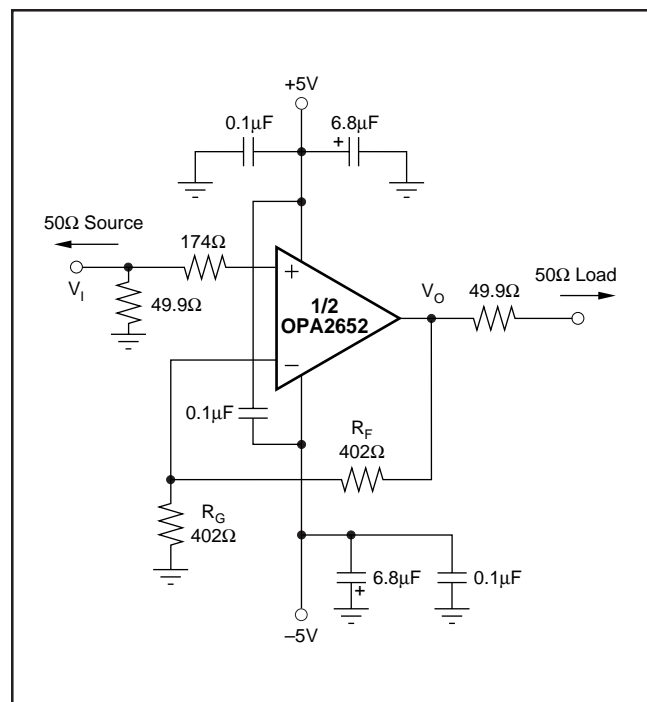
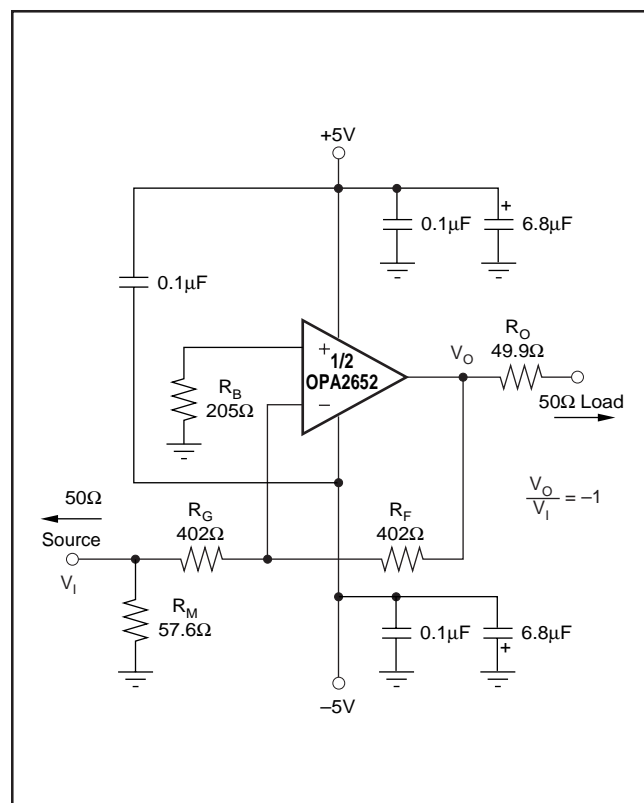

FIGURE 1. DC-Coupled,  $G = +2$ , Bipolar Supply, Specification and Test Circuit.
FIGURE 2. DC-Coupled,  $G = -1$ , Bipolar Supply, Specification and Test Circuit.
At  $T_A = +25^\circ\text{C}$ ,  $G = +2$ ,  $R_F = 402\Omega$ , and  $R_L = 100\Omega$ , unless otherwise noted. See Figures 1 and 2.
At  $T_A = +25^\circ C$ ,  $G = +2$ ,  $R_F = 402\Omega$ , and  $R_L = 100\Omega$ , unless otherwise noted. See Figures 1 and 2.
Figure 1 shows the DC-coupled, gain of +2, dual power supply circuit configuration used as the basis of the  $\pm 5\text{V}$  Specifications and Typical Performance Curves. This is for one channel. The other channel is connected similarly. For test purposes, the input impedance is set to  $50\Omega$  with a resistor to ground and the output impedance is set to  $50\Omega$  with a series output resistor. Voltage swings reported in the specifications are taken directly at the input and output pins, while output powers (dBm) are at the matched  $50\Omega$  load. For the circuit of Figure 1, the total effective load will be  $100\Omega \parallel 804\Omega$ . Two optional components are included in Figure 1.
Figure 2 shows the DC-coupled gain of  $-1$ , bipolar supply circuit configuration which is the basis of the Specifications and Typical Performance Curves at  $G = -1$ . The input impedance matching resistor ( $57.6\Omega$ ) used for testing gives a  $50\Omega$  input load. A resistor ( $205\Omega$ ) connects the non-inverting input to ground. This provides the DC source resistance matching to cancel outputs errors due to input bias current.
A good rule of thumb is to target the parallel combination of  $R_F$  and  $R_G$  (Figure 1) to be less than approximately  $300\Omega$ . The combined impedance  $R_F \parallel R_G$  interacts with the inverting input capacitance, placing an additional pole in the feedback network, and thus a zero in the forward response. Assuming a  $2pF$  total parasitic on the inverting node, holding  $R_F \parallel R_G < 300\Omega$  will keep this pole above  $250MHz$ . By itself, this constraint implies that the feedback resistor  $R_F$  can increase to several  $k\Omega$  at high gains. This is acceptable as long as the pole formed by  $R_F$  and any parasitic capacitance appearing in parallel is kept out of the frequency range of interest.
Voltage feedback op amps exhibit decreasing closed-loop bandwidth as the signal gain is increased. In theory, this relationship is described by the Gain Bandwidth Product (GBP) shown in the specifications. Ideally, dividing GBP by the non-inverting signal gain (also called the Noise Gain, or NG) will predict the closed-loop bandwidth. In practice, this only holds true when the phase margin approaches  $90^\circ$ , as it does in high gain configurations. At low gains (increased feedback factor), most amplifiers will exhibit a wider bandwidth and lower phase margin. The OPA2652 is compensated to give a flat response in a non-inverting gain of 1 (Figure 1). This results in a typical gain of +1 bandwidth of 700MHz, far exceeding that predicted by dividing the 200MHz GBP by  $NG = 1$ . Increasing the gain will cause the phase margin to approach  $90^\circ$  and the bandwidth to more closely approach the predicted value of  $(GBP/NG)$ . At a gain of +5, the 45MHz bandwidth shown in the Typical Specifications is close to that predicted using this simple formula.
Since the OPA2652 is a general purpose, wideband voltage feedback op amp, all of the familiar op amp application circuits are available to the designer. Inverting operation is one of the more common requirements and offers several performance benefits. Figure 2 shows a typical inverting configuration.
In the inverting configuration, three key design considerations must be noted. The first is that the gain resistor ( $R_G$ ) becomes part of the signal channel input impedance. If input impedance matching is desired (which is beneficial whenever the signal is coupled through a cable, twisted pair, long PC board trace or other transmission line conductor),  $R_G$  may be set equal to the required termination value and  $R_F$  adjusted to give the desired gain. This is the simplest approach and results in optimum bandwidth and noise performance. However, at low inverting gains, the resultant feedback resistor value can present a significant load to the amplifier output. For an inverting gain of  $-1$ , setting  $R_G$  to  $50\Omega$  for input matching eliminates the need for  $R_M$  but requires a  $50\Omega$  feedback resistor. This has the interesting advantage that the noise gain becomes equal to 2 for a  $50\Omega$  source impedance—the same as the non-inverting circuits considered above. However, the amplifier output will now see the  $50\Omega$  feedback resistor in parallel with the external load. In general, the feedback resistor should be limited to the  $200\Omega$  to  $1.5k\Omega$  range. In this case, it is preferable to increase both the  $R_F$  and  $R_G$  values as shown in Figure 2, and then achieve the input matching impedance with a third resistor ( $R_M$ ) to ground. The total input impedance becomes the parallel combination of  $R_G$  and  $R_M$ .
The second major consideration, touched on in the previous paragraph, is that the signal source impedance becomes part of the noise gain equation and influences the bandwidth. For the example in Figure 2, the  $R_M$  value combines in parallel with the external  $50\Omega$  source impedance, yielding an effective
driving impedance of  $50\Omega \parallel 57.6\Omega = 26.8\Omega$ . This impedance is added in series with  $R_G$  for calculating the noise gain (NG). The resultant NG is 1.94 for Figure 2, (an ideal  $0\Omega$  source would cause  $NG = 2.00$ ).
The third important consideration in inverting amplifier design is setting the bias current cancellation resistor on the non-inverting input ( $R_B$ ). If this resistor is set equal to the total DC resistance looking out of the inverting node, the output DC error, due to the input bias currents, will be reduced to  $(\text{Input Offset Current}) \cdot R_F$ . If the  $50\Omega$  source impedance is DC-coupled in Figure 2, the total resistance to ground on the inverting input will be  $429\Omega$ . Combining this in parallel with the feedback resistor gives  $208\Omega$ , which is close to the  $R_B = 205\Omega$  used in Figure 2. To reduce the additional high frequency noise introduced by this resistor, it is sometimes bypassed with a capacitor. As long as  $R_B < 300\Omega$ , the capacitor is not required since its total noise contribution will be much less than that of the op amp's input noise voltage.
The OPA2652 provides good distortion performance into a 100 $\Omega$  load on  $\pm 5V$  supplies. Increasing the load impedance improves distortion directly. Remember that the total load includes the feedback network; in the non-inverting configuration (Figure 1) this is sum of  $R_F + R_G$ , while in the inverting configuration, it is just  $R_F$ . Also, providing an additional supply decoupling capacitor (0.1 $\mu F$ ) between the supply pins (for bipolar operation) improves the 2nd-order distortion slightly (3dB to 6dB).
Evaluating these two equations for the OPA2652 circuit and component values shown in Figure 1 will give a total output spot noise voltage of  $17nV/\sqrt{Hz}$  and a total equivalent input spot noise voltage of  $8.4nV/\sqrt{Hz}$ . This is including the noise added by the bias current cancellation resistor (205 $\Omega$ ) on the non-inverting input. This total input-referred spot noise voltage is only slightly higher than the  $8nV/\sqrt{Hz}$  specification for the op amp voltage noise alone. This will be the case as long as the impedances appearing at each op amp input are limited to the previously recommended maximum value of 300 $\Omega$ . Keeping both  $(R_F \parallel R_G)$  and the non-inverting input source impedance less than 300 $\Omega$  will satisfy both noise and frequency response flatness considerations. Since the resistor-induced noise is relatively negligible, additional capacitive decoupling across the bias current cancellation resistor ( $R_B$ ) for the inverting op amp configuration of Figure 2 is not required.
The balanced input stage of a wideband voltage feedback op amp allows good output DC accuracy in a wide variety of applications. Although the high speed input stage does require relatively high input bias current (typically 4 $\mu A$  out of each input terminal), the close matching between them may be used to significantly reduce the output DC error caused by this current. This is done by matching the DC source resistances appearing at the two inputs. This reduces the output DC error due to the input bias currents to the offset current times the feedback resistor. Evaluating the configuration of Figure 1, using worst-case +25°C input offset voltage and current specifications, gives a worst-case output offset voltage equal to:
As an example, compute the maximum  $T_J$  using an OPA2652E (SOT23-8 package) in the circuit of Figure 1 operating at the maximum specified ambient temperature of +85°C and with both outputs driving 2.5VDC into a grounded 100Ω load.